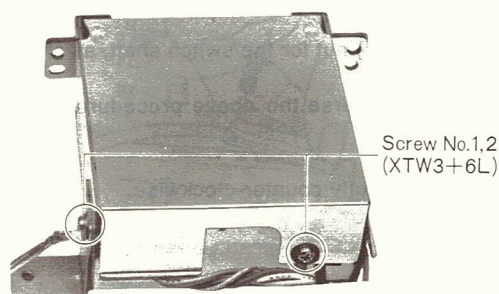

Fig. 8
2. Remove the two (2) screws (nos. 1 & 2) for the shield cover, as shown in fig. 8.